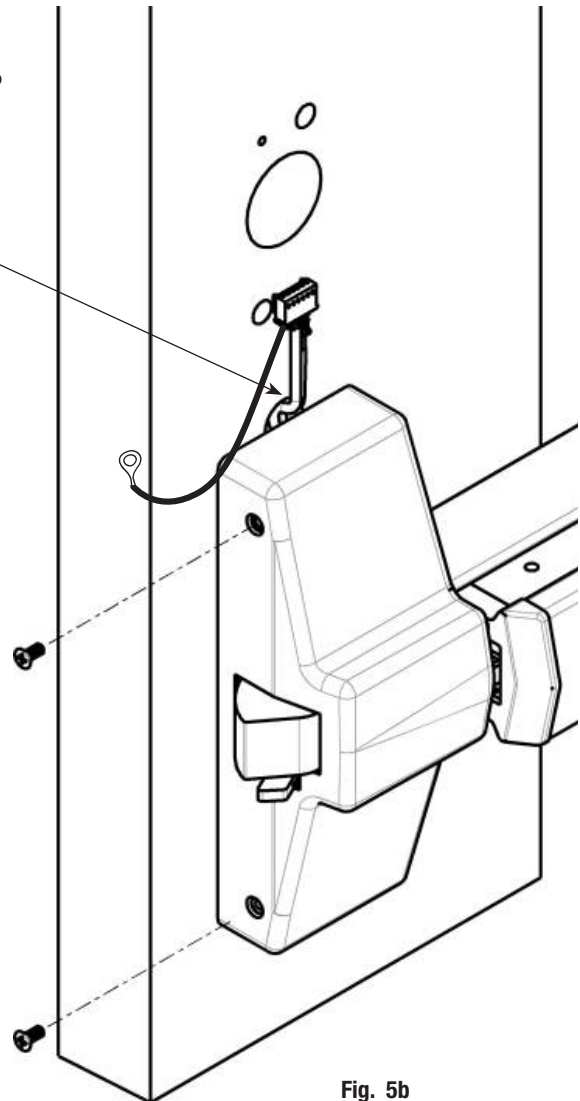

Fig. 5b
- Attach head cover using (2) #8-32 flat head screws (Fig. 5b).